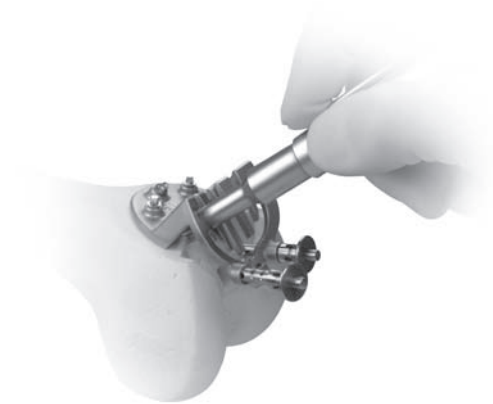

Fig. 40
- Pull up until stop is reached and release the button. ("Mill" position – The gold band should be visible above guide) (Fig. 40).